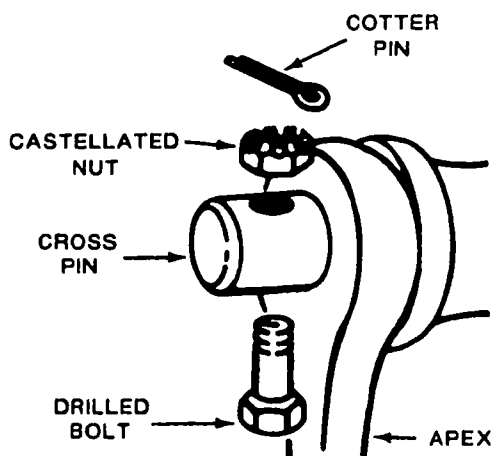

Figure 6-13. Bolt Assembly
Step 2 - Remove the bolt from the pin (Figure 6-13).